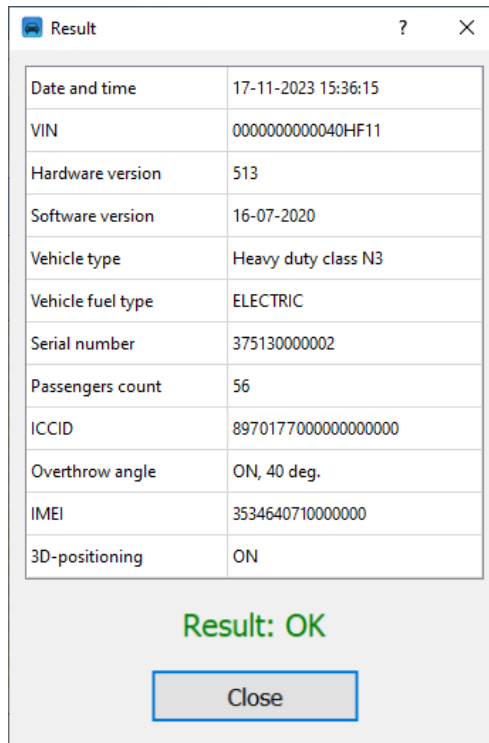

Figure 10 – «Result» window with the results of reading parameters from the Device memory
- wait until the parameters reading is completed and the «Result» window is displayed (Figure 10);